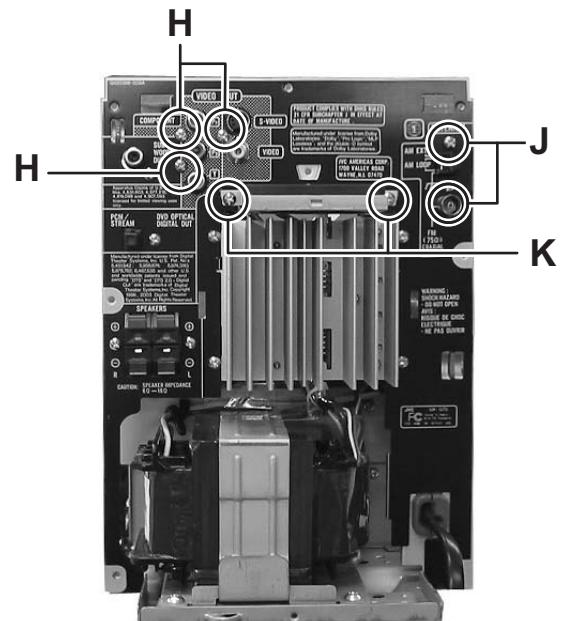

Fig.8
- (2) Remove the three screws **H** attaching the video board. (See Fig.8)
(Fig.8, 9)
- (2) Remove the two screws **J** attaching the tuner pack. (See Fig.8)
- (2) Remove the two screws **K** attaching the fan. (See Fig.8)